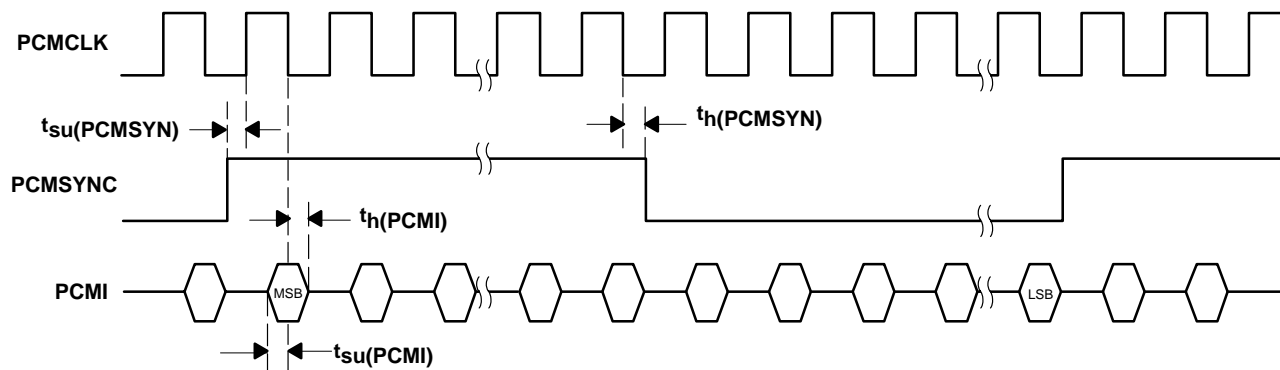

Figure 4. Receive Timing Diagram, 128 kHz
**receive (128-kHz CLK) (see Figure 4)**